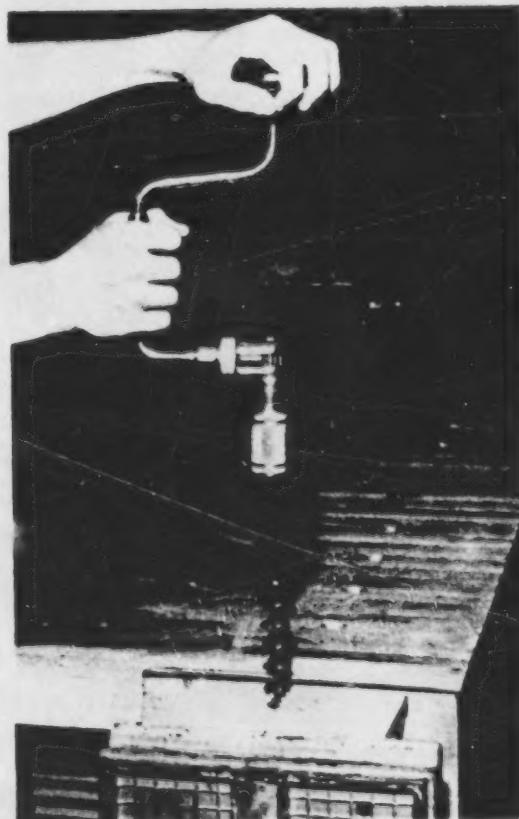

Figure 8-5 Boring a hole
8. Hold the brace and bit straight, and bore the hole by turning the handle clockwise (Figure 8-5).